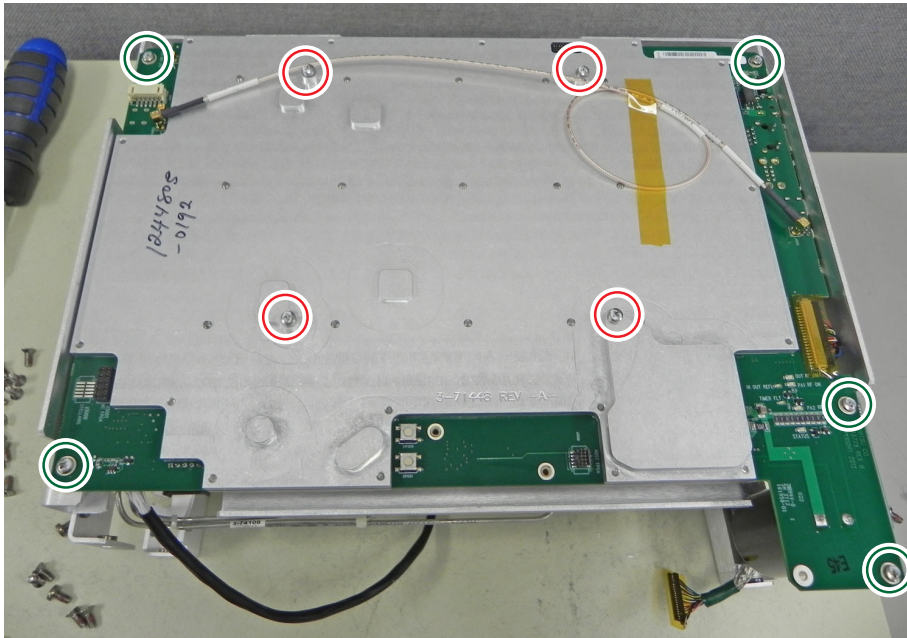

Figure 5-32. Remove Motherboard
12. Remove the five M3 x 6 screws on the perimeter (shown in Green) holding the motherboard to the chassis and the four M3 x 35 mm screws (shown in Red) holding the motherboard to the RF assembly (Figure 5-32). The motherboard can now be removed. Filter removal is not required if only the motherboard is being changed.